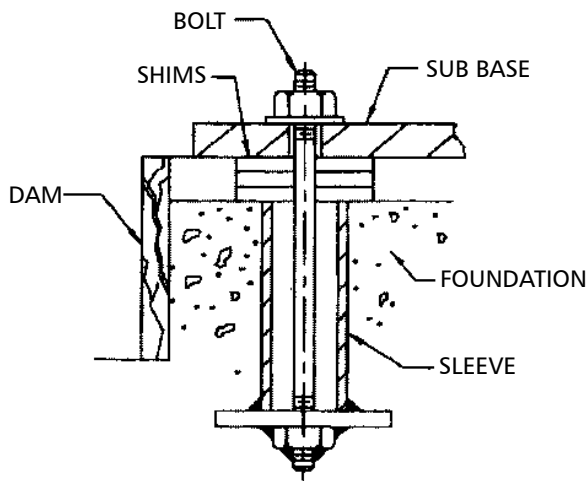

Figure 4
- A. Using leveling the wedges. This is shown in Figure 4.
2. Build dam around foundation (See Figure 4). Thoroughly wet foundation.